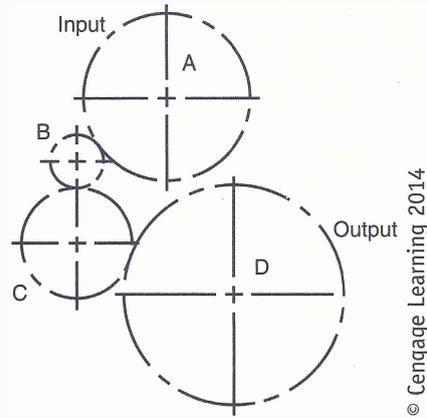

FIGURE 4-5 A gear train schematic.
1. Does the schematic drawing in Figure 4-5 represent a simple or compound gear train? How can you tell?